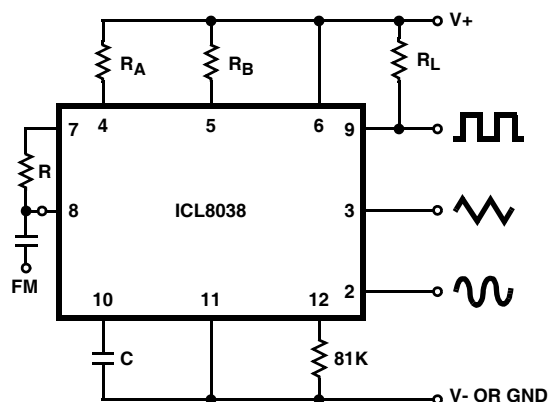

FIGURE 5A. CONNECTIONS FOR FREQUENCY MODULATION
- $V_{SUPPLY} = 20V$; R_A and $R_B = 10k\Omega$, $f \cong 10kHz$ nominal; can be extended 1000 to 1. See Figures 5A and 5B.
The frequency of the waveform generator is a direct function of the DC voltage at Terminal 8 (measured from V_+). By altering this voltage, frequency modulation is performed. For small deviations (e.g. $\pm 10\%$) the modulating signal can be applied directly to pin 8, merely providing DC decoupling with a capacitor as shown in Figure 5A. An external resistor between pins 7 and 8 is not necessary, but it can be used to increase input impedance from about 8kΩ (pins 7 and 8 connected together), to about $(R + 8\text{k}\Omega)$.